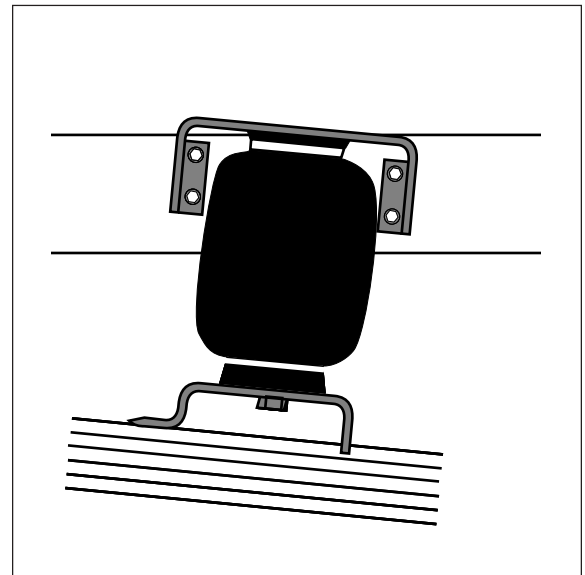

Figure 8
4. Check to see that the sleeve rolls back down over the bottom piston after the vehicle is lowered (Figure 8 and 9).
8. *Should it become necessary to raise the vehicle by the frame, make sure the system is at minimum pressure (5 p.s.i.) to reduce the tension on the suspension/brake components.* Check to see that the sleeve rolls back down over the bottom piston after the vehicle is lowered (Figure 8). If sleeve fails to roll back down over the piston, add air pressure until sleeve “pops” back over piston (do not exceed 100 p.s.i.).